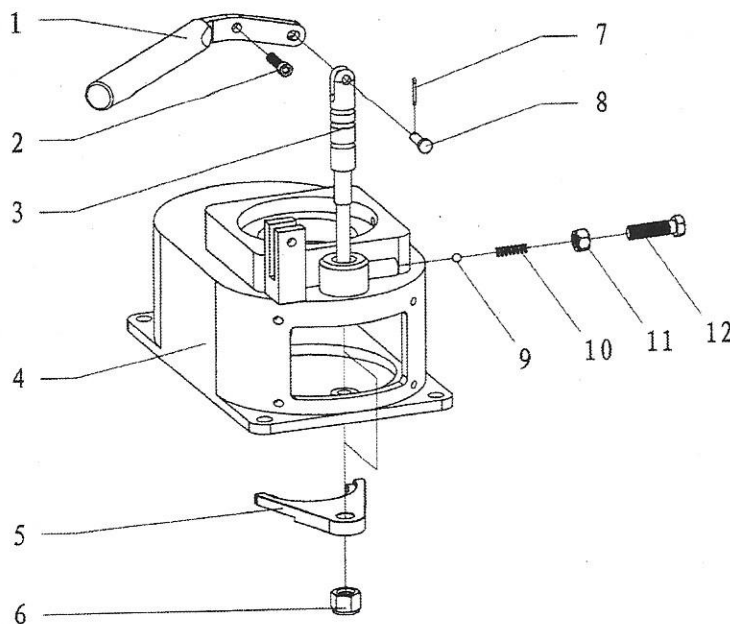

Fig. 11
8. Gear engagement assembly (Fig11, Table 8)